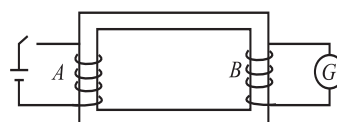

Fig. 19.11 : Mutual inductance of a pair of coils
1. Consider the sense of the mutually induced emf's in Fig.19.11, according to an observer located to the right of the coils. (a) At an instant when the current i_1 is increasing, what is the sense of emf across the second coil? (b) At an instant when i_2 is decreasing, what is the sense of emf across the first coil?
2. Suppose that one of the coils in Fig.19.11 is rotated so that the axes of the coils are perpendicular to each other. Would the mutual inductance remain the same, increase or decrease? Explain.